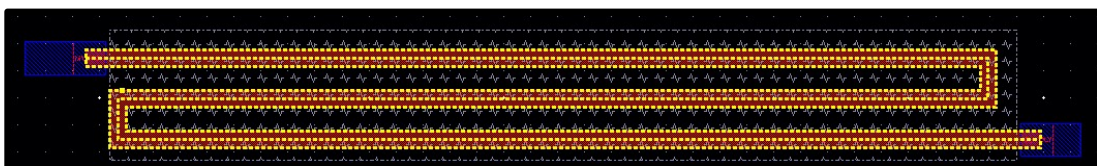
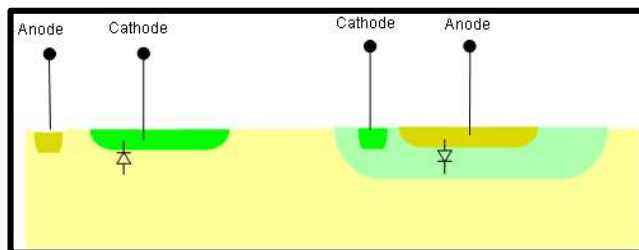
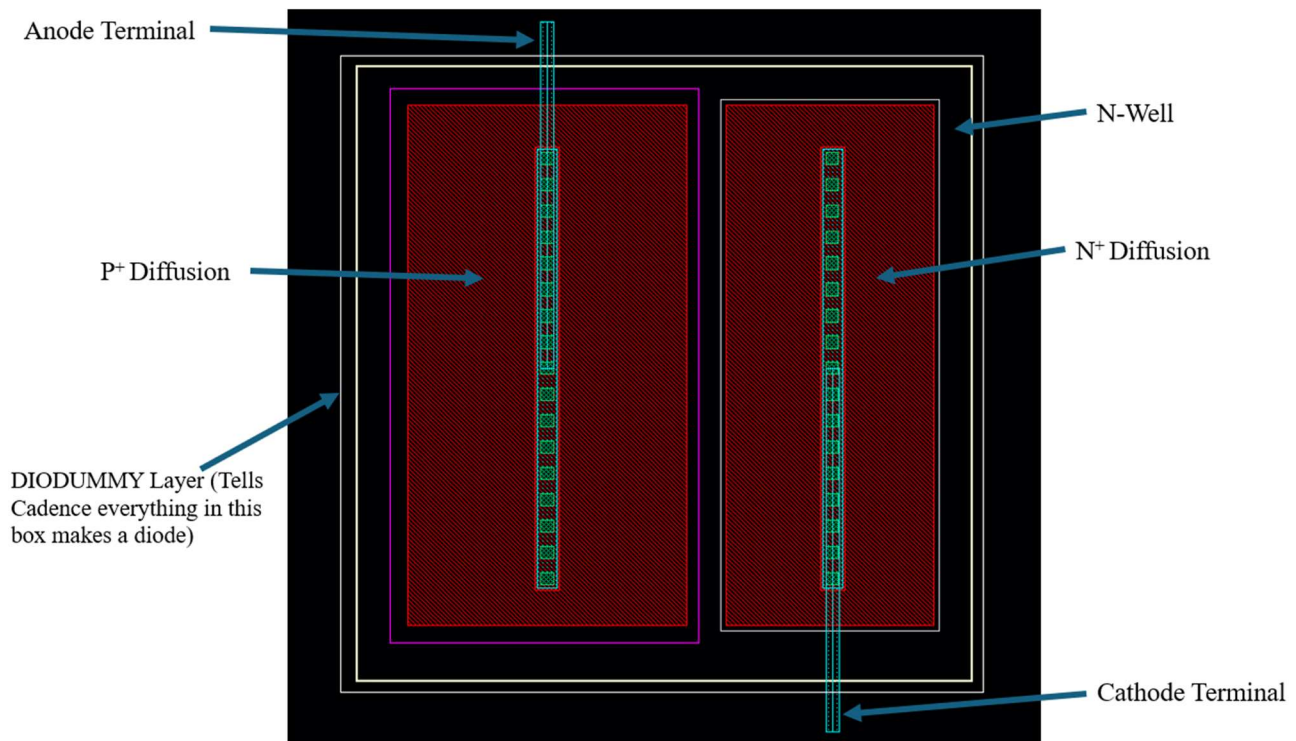
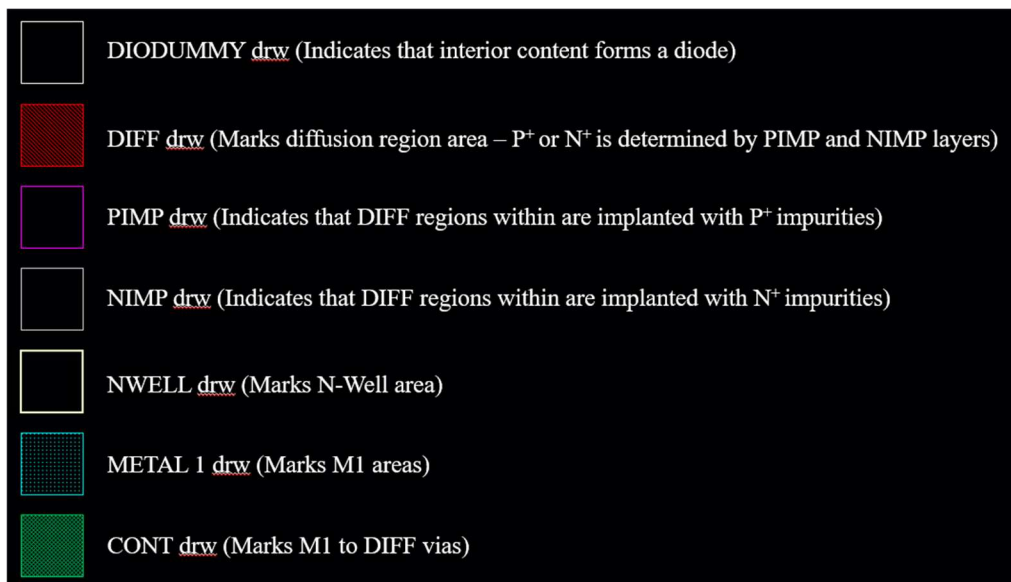

Figure 2: Serpentine Resistor Layout (From the ON 0.5u Process)
Figure 5: Two Ways to Make Diode in n-well CMOS Process; n+/p-substrate on left and p+/n-well on right
Figure 6: Simple P+/N-Well Diode Layout Made in the tsmc18rf PDK
Figure 7: Layer Definitions for the Diode Layout Shown in Figure 4
You are encouraged to experiment with ways of shaping the resistor to maximize the resistance to area ratio. For example, a serpentine layout could be used like that shown in Figure 2.
In the n-well bulk CMOS process, diodes can be created in two ways: one is with a p+ diffusion in an n-well and the other is with a n+ diffusion in the p-substrate. These two ways of creating a diode are depicted in Figure 2. Though this represents two ways to create a diode, the n+/p-substrate diode has very limited applications since its anode is inherently connected to the substrate. Even the p+/n-well diode has some limitations since there is actually a p-sub/n-well diode also present (not shown in Figure 5). The node labels in this figure denote the contacts to the anodes and cathodes of the diodes. For example, the cathode for the p+/n-well diode on the right is actually the n-well or more precisely the n-well region immediately adjacent to the p+ diffusion.
For this lab, we will use the p+/n-well diodes and layout each diode in its own n-well, as in Figure 5. The area factor, A, in the diode equation (1) is the area of the intersection of the diffused regions that form the anode and the cathode. In this layout, the cathode surrounds the anode so the area factor, A, is the area of the anode which is formed with the p+ implanted region. Figure 6 shows a p+/n-well diode layout in the tsmc18rf pdk. Figure 7 shows the layer definitions for the layout. Note that the diode is surrounded by a rectangle of layer DIODUMMY. The DIODUMMY layer tells Cadence that the layout within its boundaries forms a diode.
Create a layout for a p+/n-well diode. Make the diode a square (square N-Well) and make the Anode to be much larger than the Cathode (at least 4x). An example (does not meet the specs above) layout is shown in Figure 6. Make sure the layout passes DRC.